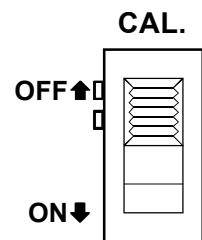

FIGURE 4.5
6. Ensure that the 'CALIBRATION ENABLED/DISABLED' switch is set at the 'DISABLED' position. Refer to Figures 4.5 and 4.6.